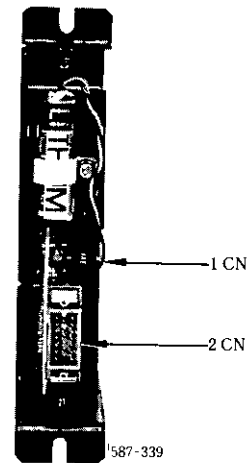

Fig 7.5 Battery Module (JEFMC-Z010)
- ② Securely connect the battery so as to prevent an environmental change or a change with the passage of time, causing contact failure.
- ③ Battery voltage is not monitored in the Servopack. Prevent the voltage from falling below 2.8 V.
- ④ If battery voltage lowering detection circuit is necessary in the system, a battery module (JEFMC-Z010) provided with voltage lowering detection alarm LED and I/O output are available. Fig. 7.5 shows the battery module.